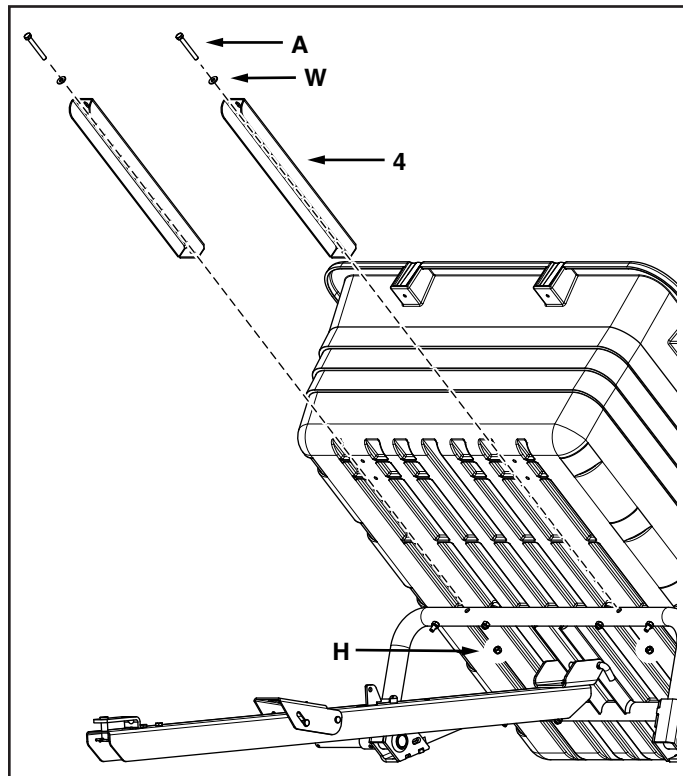

FIGURE 10
STEP 10: (SEE FIGURE 10)
1. Position the poly tray as shown in figure 10. Attach the wheel support braces (4) to the wheel support using two 5/16" x 2-1/2" hex bolts (A), 5/16" washers (W), and 5/16" nylock nuts (H). Hand tighten.